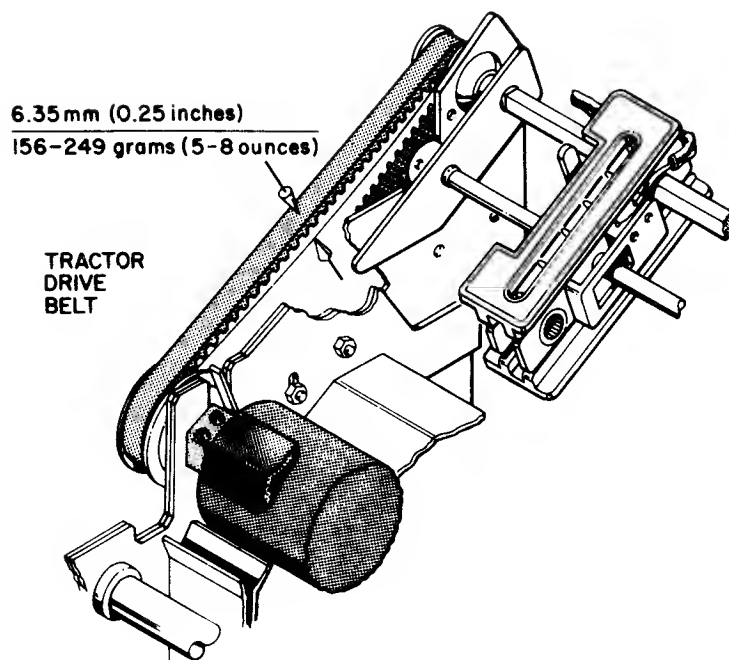

Figure 3-8D. TRACTOR DRIVE TIMING BELT TENSION (26-1152)
1. Tractor Drive Timing Belt Tension (Figure 3-8D)